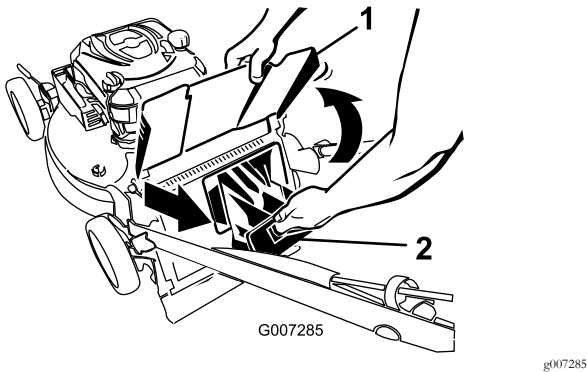

Figure 24
2. Raise and hold up the rear door (Figure 24).
3. Pull out the rear plug (Figure 24).